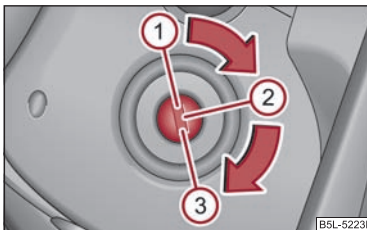

Fig. 106 Ignition lock positions
- The engine can be switched off by turning the ignition key into position ① ⇒ page 108, fig. 106.